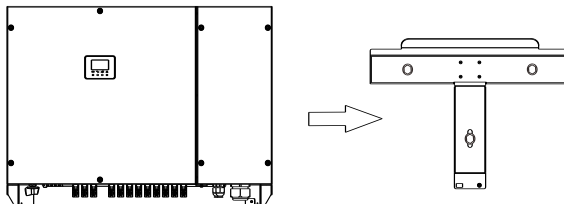

Figure 4.10 Install the inverter onto the mounting bracket
- ③ Step 3 : Install the inverter onto the mounting bracket. Ensure that the three supporting points (on the rear side of the inverter) contact the mounting bracket correctly, as shown in Figure 4.10